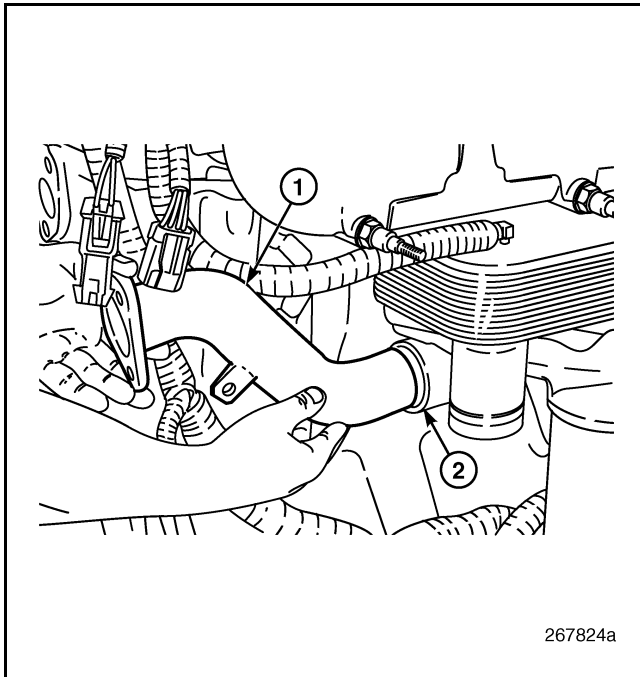

Figure 478 — Coolant Inlet Tube Removal
1. Install the water pump coolant inlet tube from the oil cooler if removed (Figure 478).